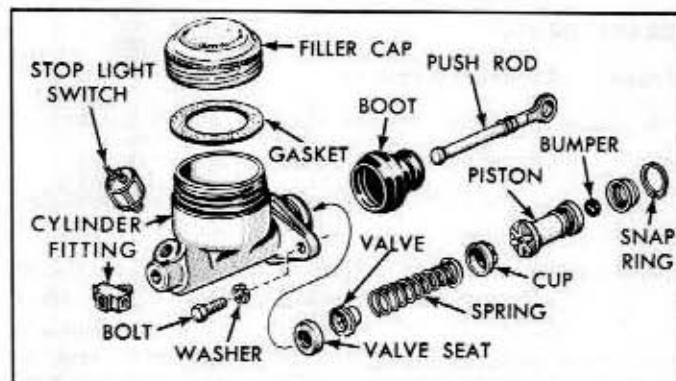

Fig. 2-7—Brake Master Cylinder—Disassembled—(60C-2007)
2. Remove the stop light switch and brake fitting. See figure 2-7.